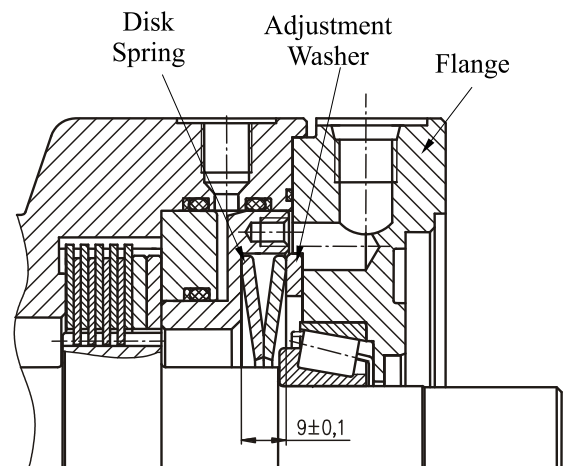

Fig.8
11. Install adjustment washer and disk springs (see Fig. 8).
IMPORTANT! The size of adjustment washer should ensure opening pressure as shown in Table 1 (after mounting of flange the dimension over disk springs should be $9 \pm 0,1$ mm) (see Fig.8).